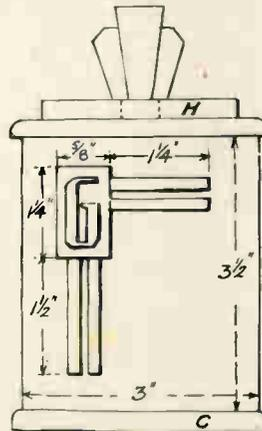

Fig. 2—Front elevation with outlines of decoration
The floor of the box (C) is next cut and fixed on. This measures $3\frac{1}{4}$ ins. by $3\frac{1}{4}$ ins., and its four top edges are rounded as seen in Fig. 2. In fixing on the floor see that an equal margin appears on all four sides of the box. Here some thin nails or fret pins will be required, because of gluing on to the end grain of the sides of the box.
The suggested measurements of the overlay bearing the monogram are given in Fig. 2. The whole may be cut in wood or painted on as advised in the early part of this article.